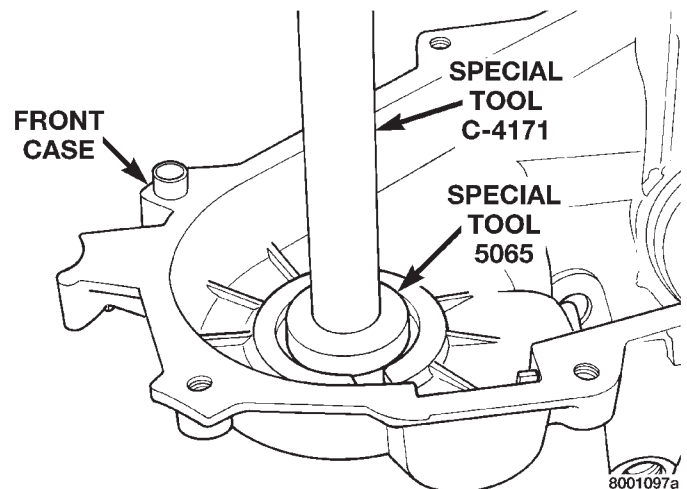

Fig. 42 Front Output Shaft Bearing Removal
(3) Remove bearing with Tool Handle C-4171 and Tool 5065 (Fig. 42).